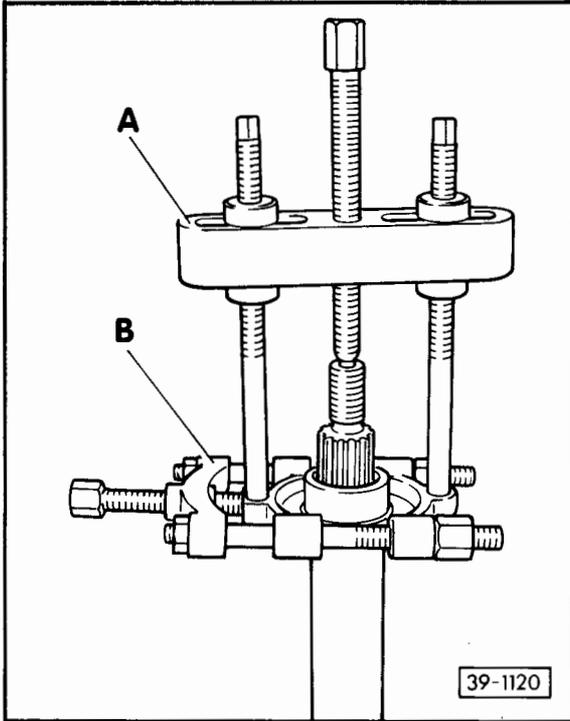

Fig. 1 Removing washer and inner race of cylindrical roller bearing
- Removing – Fig. 1
- o Fig. 1
◀ Fig. 1 - Previous dimension of flange on end shield $a = 14.5$ mm